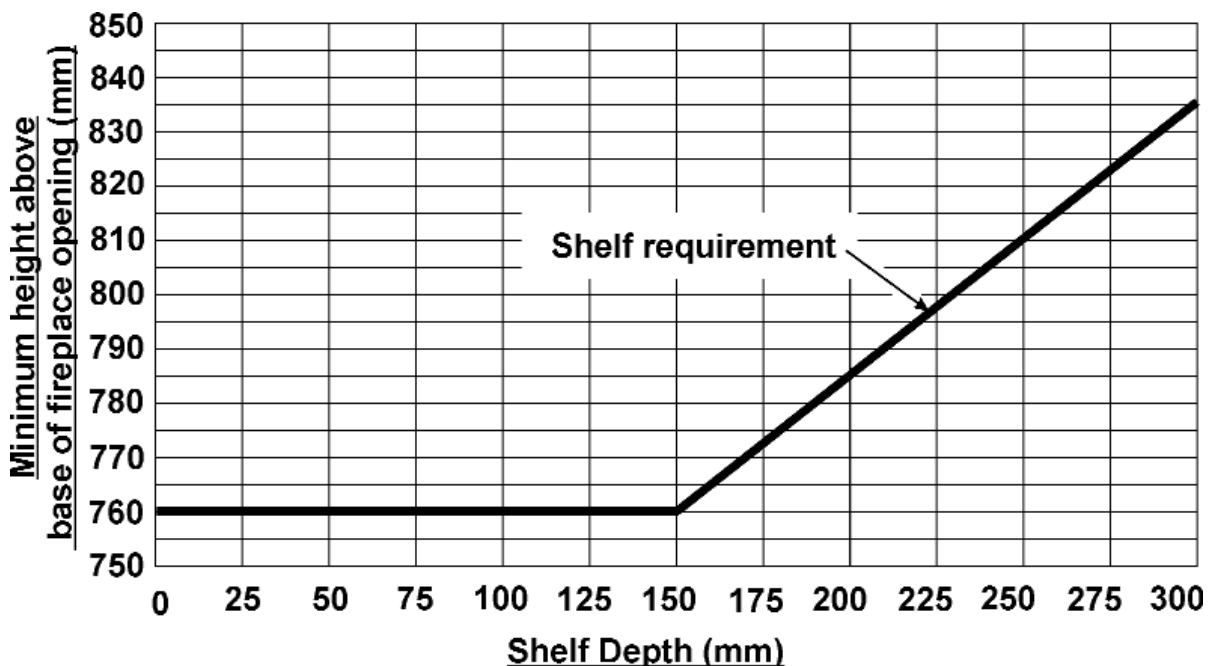

Figure 1. Combustible shelf clearances.
**Do** provide a minimum clearance as shown in figure 1 above the base of the hotbox to any shelf made of wood or other combustible material.
• *For a shelf deeper than 150mm: 760mm + 12.5mm for every 25mm depth over 150mm (See Figure 1).*